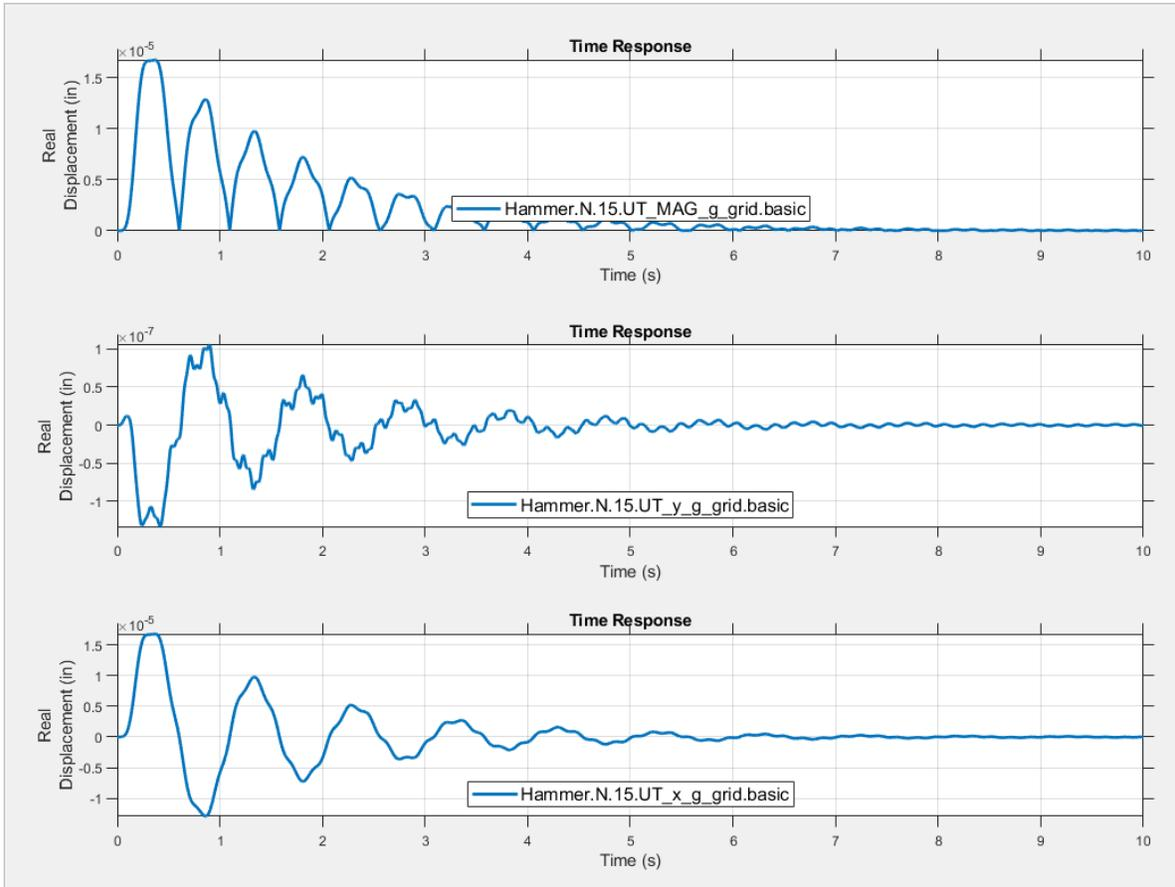

Figure 4-119. Transient displacements for node 15.
8. In order to create an animation of the structure in motion, create a contour request for displacement (UT) at all nodes. Enter 0.0 for the *First output time* and 3.0 for the *Last output time* to create contours from 0.0 to 3.0 seconds. We have selected 3 seconds as the end time because the structure's response will decay to about 30% of its maximum by then (see Figure 4-119). Set the *Output interval* to 0.025 (seconds) and leave *Total outputs* blank. This will produce 121 time frames for the animation. (Alternatively, you can specify how many animation frames you want using *Total outputs*, and let Vibrata determine the time step needed to fill the output time span with that many frames.) Select *Responses at each time* to store the results from
- Solve the event. Click the **Plot XY** button to view the requested nodal displacement histories. These are shown in Figure 4-119 using the *stacked* plot mode. Note the different orders of magnitude on the Y-axis labels.